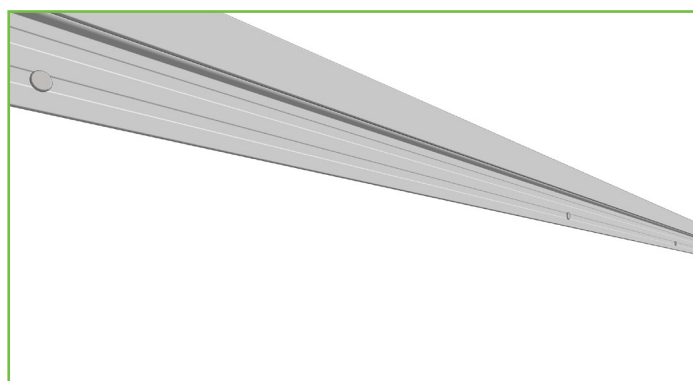

Figure 23.3
3. At the top of the wall apply an EZ.40 J trim and fasten in place. (Figure 23.3) (See Fastening Info).